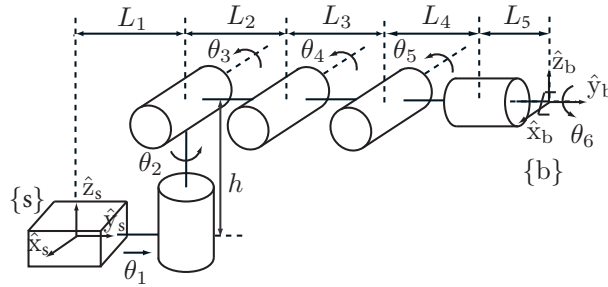

Figure 1: A PRRRRR spatial open-chain robot manipulator at its home configuration.
- The PRRRRR spatial open-chain robot manipulator of Figure 1 is shown in its home configuration. Assume that $l_1 = 0.20$ m, $l_2 = 0.20$ m, $l_3 = 0.20$ m, $l_4 = 0.20$ m, $l_5 = 0.10$ m, and $h = 0.35$ m.